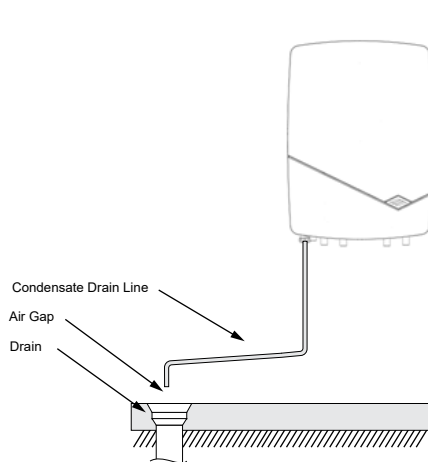

Figure 5.2: Condensate Direct to an External Drain
1. Directly to an external drain (Figure 5.2)